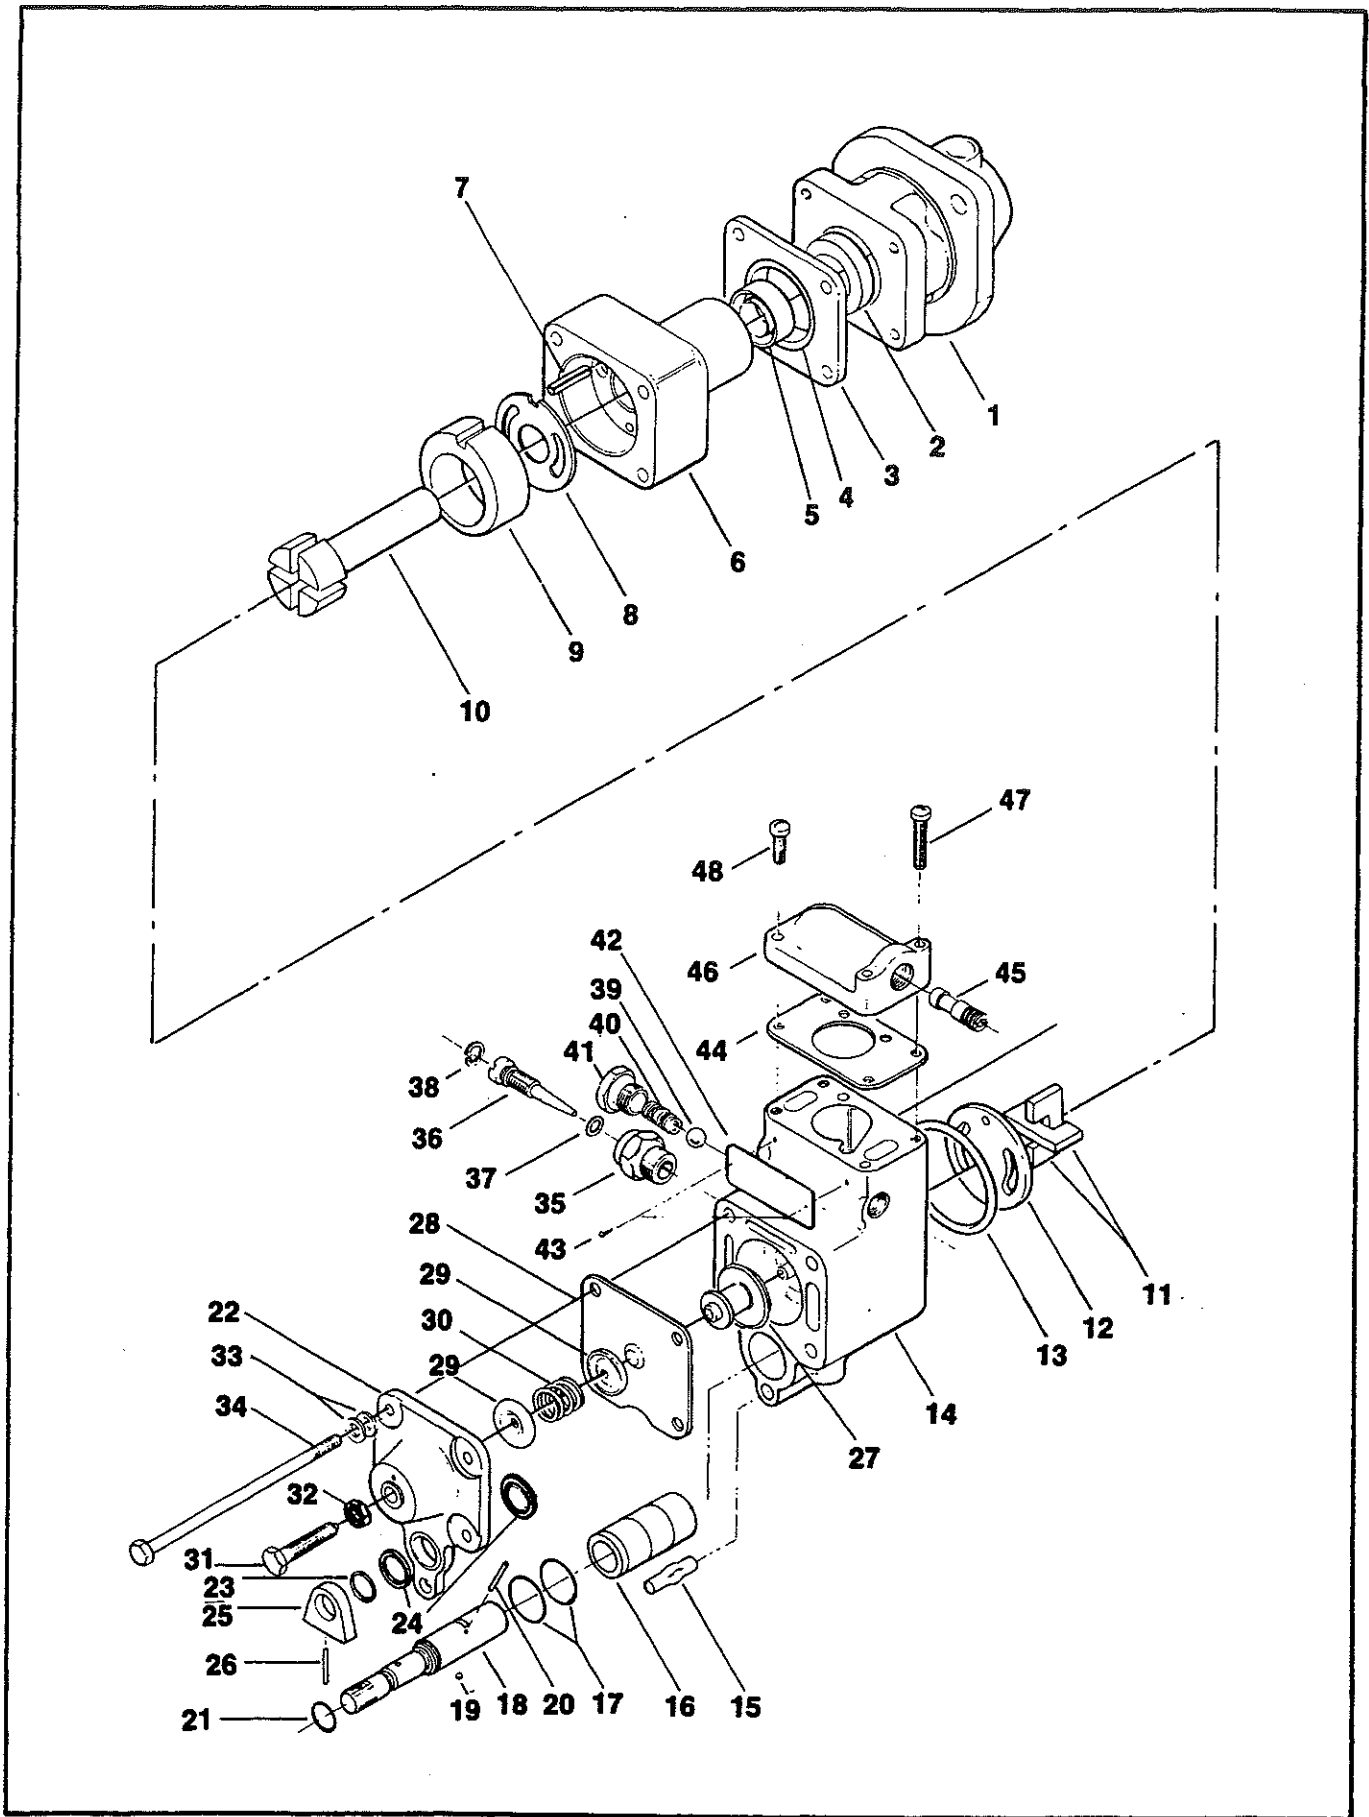

FIGURE 20-01. FUEL PUMP ASSEMBLY
A. Place pump in suitable fixture and remove all lockwire; and fittings if necessary. Refer to exploded view (Figure 20-01) and proceed as follows: Loosen screw (31) to relieve pressure on relief valve spring (30). Remove four bolts (34), washers (33) and separate parts (1 through 13) from vapor separator body (14).
B. Disassembly of the basic pump should be accomplished in the following manner: Remove the adapter (1) and insulator (3) from the basic pump. Remove seal (2) from adapter (1) and bushing (4) from insulator (3). Hold pump body (6) firmly in palm of hand, end plate (12) down, and apply pressure to drive end of shaft (10) forcing end plate (12), end plate seal (13), blades (11) and shaft (10) from pump body. Remove seal (5) and discard. It is important to note the liner position relative to the rotation marking found on the top surface of the liner. It must be installed with the proper marking (C or CC) in the up position.
**CAUTION . . .** Do not disassemble liner (9), plate (8) or pin (7) from pump body unless inspection indicates damage or excessive wear. If these parts are to be removed, place the pump body in a dry oven at 400° F. for 10 to 15 minutes to expand the aluminum body. The liner (9), plate (8) and pin (7) may then be removed by carefully bumping body.
C. Separate cover assembly (22) from vapor separator body (14). Remove screw (31) from cover (22), pin (26) and collar (25) and remove collar (25), teflon washer (24) and "O" ring (23) from shaft (18). Remove shaft (18) from cover (22) and "O" ring (21) from shaft. At this point the ball check in the mixture control shaft shall be checked for leakage. If no leakage is observed, further disassembly of the mixture control shaft (18) is not required. If leakage is observed, continue as follows: Ball (19) and pin (20) must be
D. Remove diaphragm (28) and plunger (27) from vapor separator relief valve body (14). Now remove screws (47 and 48), cover (46) and gasket (44). Remove ejector (45) from vapor separator cover.
E. Remove plug (41), spring (40), and ball (39) from body (14). Remove retaining ring (38), adjusting needle (36), "O" ring (37) and plug (35) from body. Place (14) in suitable fixture and, with a long reach internal puller, remove insert (16). Remove "O" rings (17) from insert (16). This completes disassembly.
A. Reassemble basic pump (5 through 13) in reverse order of disassembly. Refer to Figure 20-01 and install new seal (5) in body (6). Install pin (7), plate (8) and liner (9) in body (6). Be sure liner is installed with proper rotation lettering visible. Use light machine oil to lubricate shaft (10) and install in pump. Install blades (11) in position and lubricate lightly. Install plate (12) and seal (13) to complete basic pump assembly. Install seal (2) in adapter (1). Install bushing (4) and insulator (3) on pump assembly and insert into adapter assembly.
B. If insert (16) was removed at disassembly, install new "O" ring (17) on insert (16). Use a small amount of Parker "O" Lube on all "O" rings at assembly to insure ease of assembly and